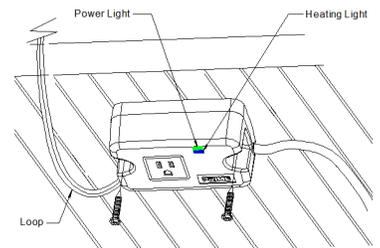

Fig. 4
5. The roof de-icing cable will be energized when blue "Heating" light is lit. Fig. 4.